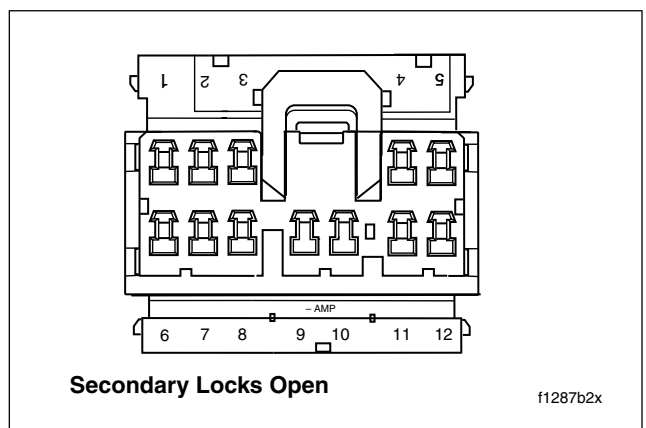

Figure 8-85. Numbers Stamped on Secondary Locks (Socket Housing Shown)
- g. Remove the appropriate terminals from the socket and/or pin housings. Follow the wires of the faulty switch or reference Table 8-14 for the applicable chamber numbers. For wire location purposes, numbers are stamped into the secondary locks. See Figure 8-85.
- c. Install terminals into socket or pin housing. See Table 8-14 and Figure 8-85.